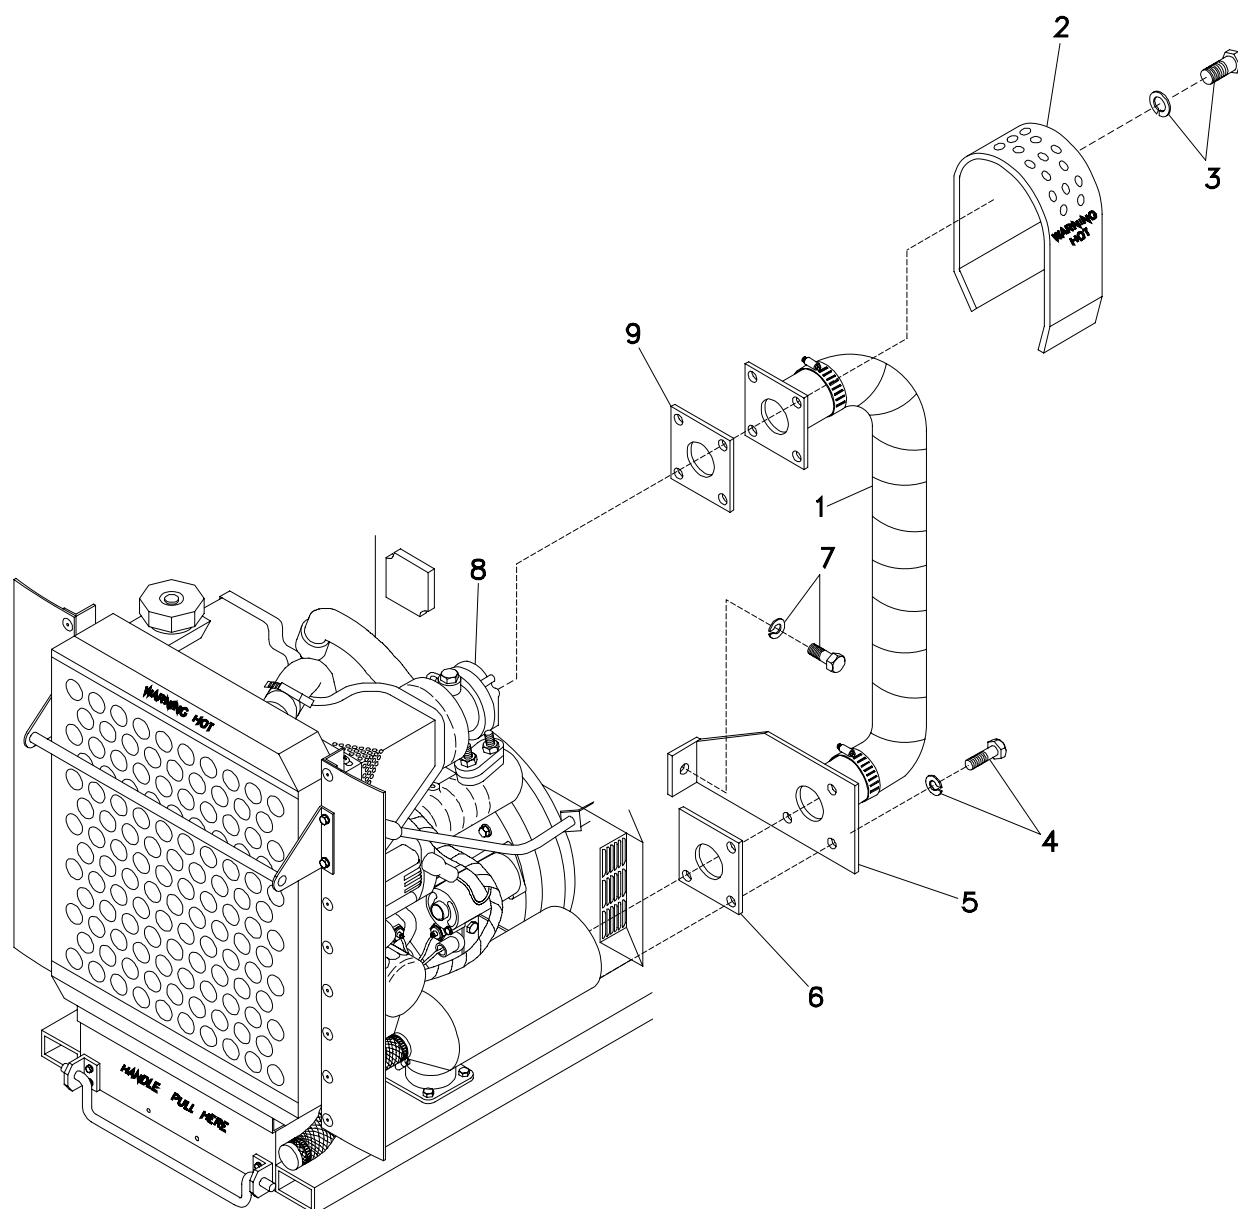

Figure 4-30. Exhaust Pipe (JTACS and WIN-T)
- a. Remove three bolts and lock washers (4, Figure 4-30) and one bolt and lock washer (7) from muffler bracket (5).
- b. Remove four nuts and lock washers (JTACS) (3) or four bolts and lock washers (WIN-T) (3a) securing exhaust pipe (1) and flange gasket (9) to turbocharger (8).